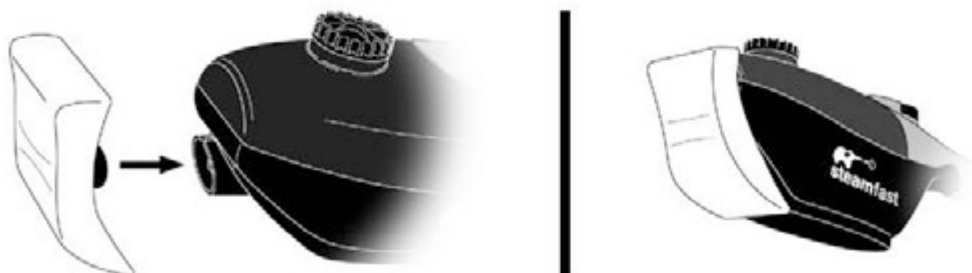

FIGURE 7
2. Align Fabric Nozzle with Steam Nozzle as shown (FIGURE 7).